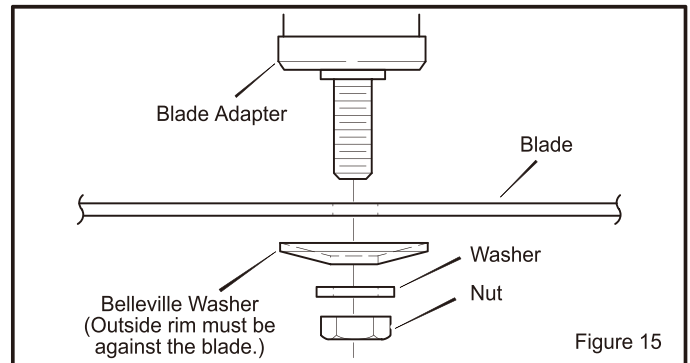

Figure 15
8. Fasten the **blade** with the original washers and **nut**. Make sure the outside rim of the **Belleville washer** is against the **blade** (Figure 15).